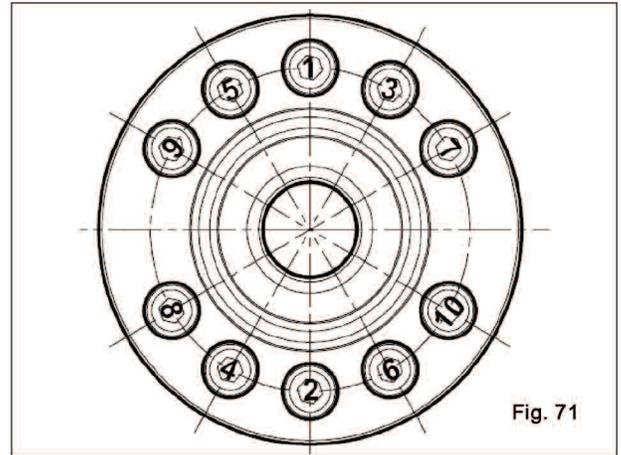

Fig. 71
- \*\*\*\*The support fixing screws must be tightened in a single phase respecting the sequence shown in fig. 71.